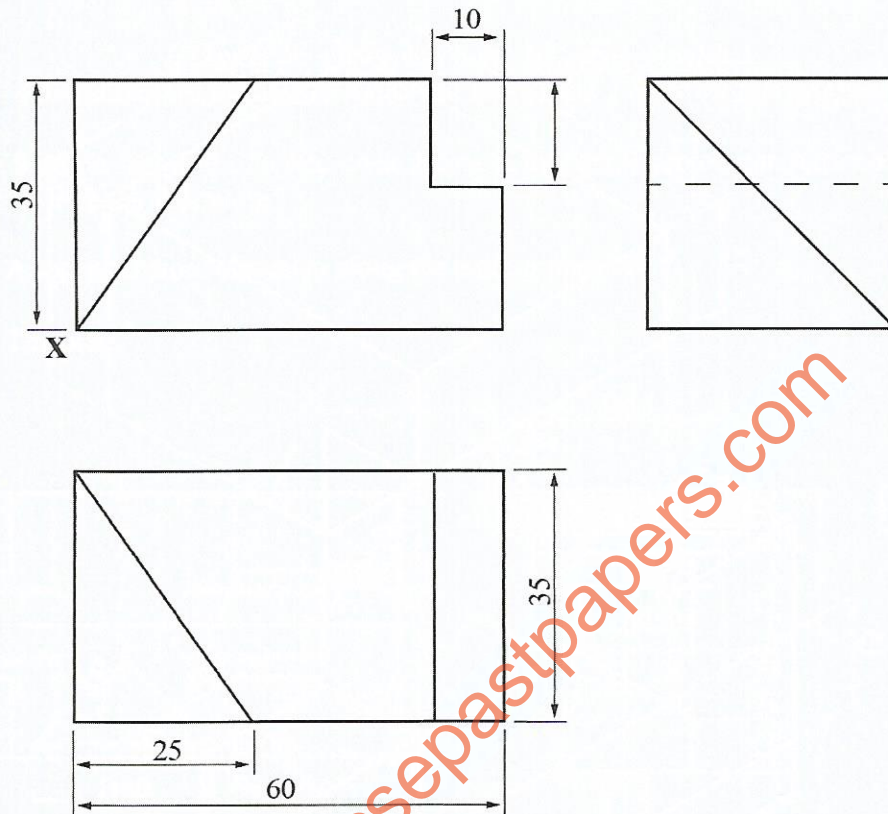

Figure 3
8. **Figure 3** shows three views of a shaped block drawn in first angle projection. Draw the block in isometric projection taking X as the lowest point. (6 marks)